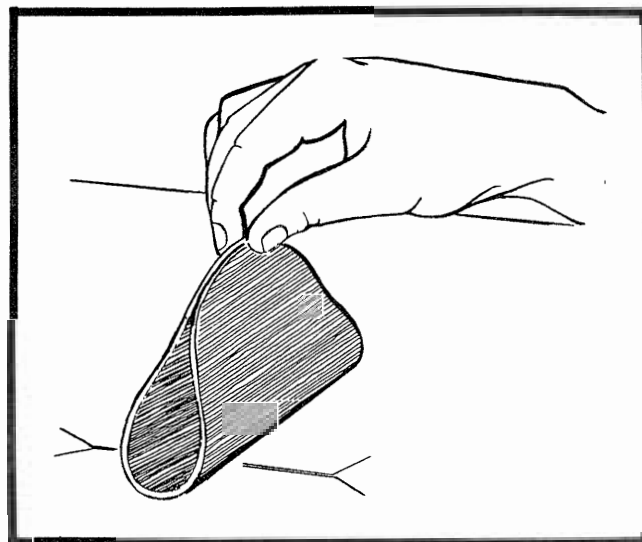

Figure 16-45. Centering Patch Over Injury
9. Allow cement to dry approximately ten minutes and then center patch over injury as shown in figure 16-45.